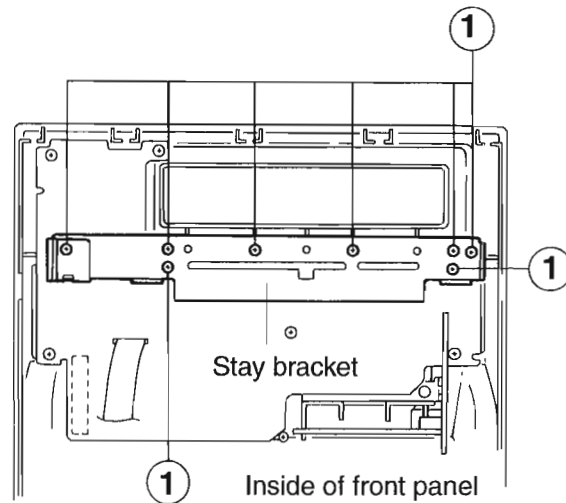

Fig. 3-20
7. Remove the eight screws ① fastening the stay bracket inside the front panel assembly. (See Fig. 3-20)